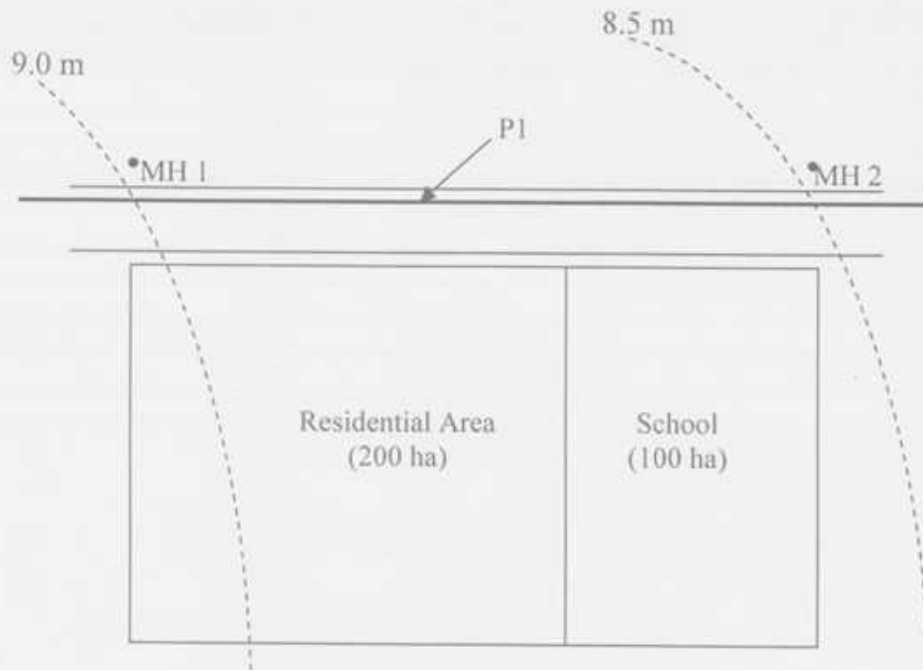

Figure 1: For Problem 1 (b)
1. (a) Briefly explain the essential elements of a sewerage system. (5)
- (b) A composite area consisting of residential area and school (shown in Figure 1) is served by sewer P1. At present the residential area has a total of 50 nos 5 storied building with two flats on each floor. The average occupancy is 5 persons per flat and per capita water demand is 200 liter per day. While, there are 5000 students having waste water generation rate of 70 lpcd in the school. Design the segment of sewer (P1) between man holes MH1 and MH2 serving the composite area using the following data: (20)